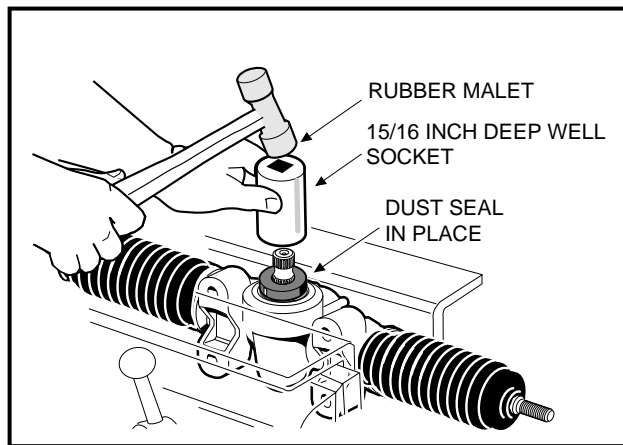

Figure 7-21 Press In Dust Seal
5. Using a socket to apply pressure evenly, press in a **new** dust seal (**Figure 7-21, Page 7-12**).